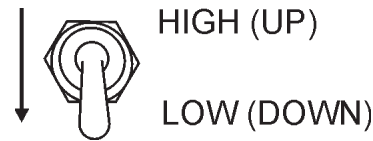

Figure 65. Engine Speed Switch (Low)
23. Set engine speed switch to “**LOW**” (Figure 65).